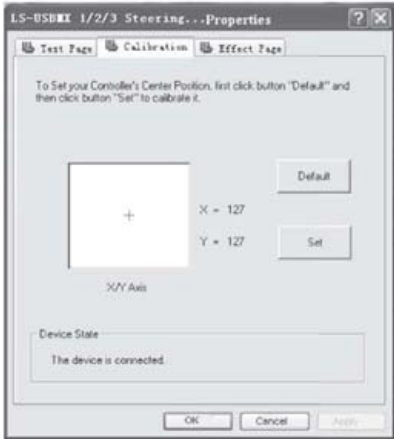

Fig. 9
- *Wheel calibration.* This option is only used for calibrating wheel centering fault under analog mode (the indicator LED turns red): when the cross cursor is not centered in the X/Y Axis as seen in the interface, please press “Default” and then press “Set” (Fig. 9).